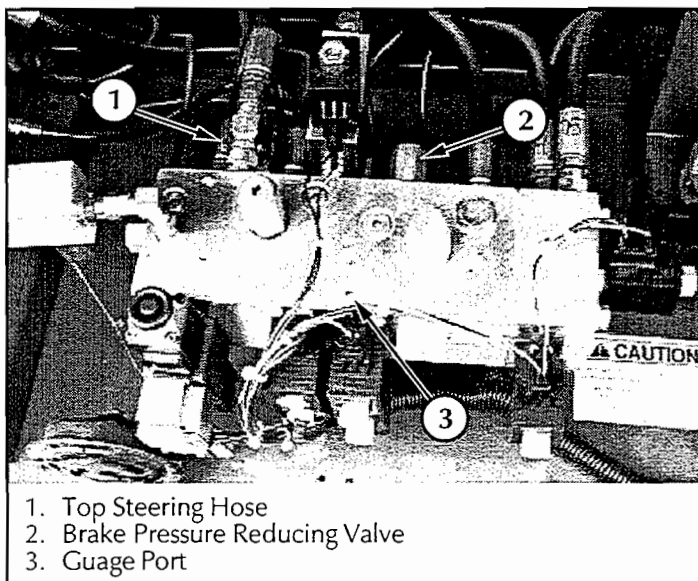

Figure 4-5: Hydraulic Manifold Assembly, Top View
2. Remove the gauge port plug (Figure 4-5) and install a 0-3000 psi (0-107 bar) pressure gauge assembly.
2. Remove the gauge port plug (Figure 4-5) and install a 0-600 psi (0-41 bar) pressure gauge assembly.
BRAKE PRESSURE REDUCING VALVE (Figure 4-5 & 4-6)
2. Remove the gauge port plug (Figure 4-5) and install a 0-3000 psi (0-207 bar) pressure gauge assembly.